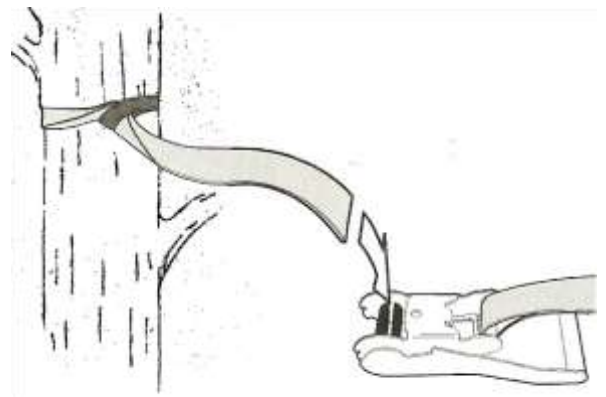

Figure 2.
4. Insert the flat end of the 2" webbing with loop into the ratchet handle, tighten slightly to hold. (fig. 2)